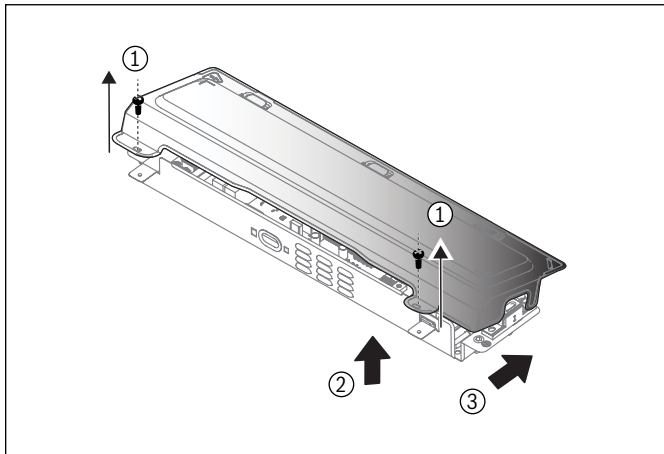

Figure 52
1. Remove the two screws shown in the Figure 52.